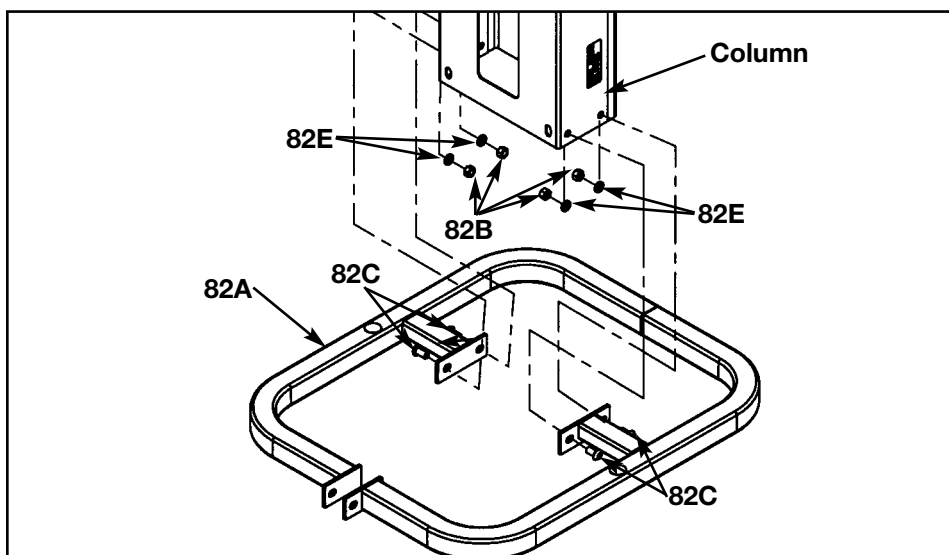

Figure 10
- C.** With an assistant, carefully place column into stabilizer (#82A) then attach hardware as shown in Figure 10.